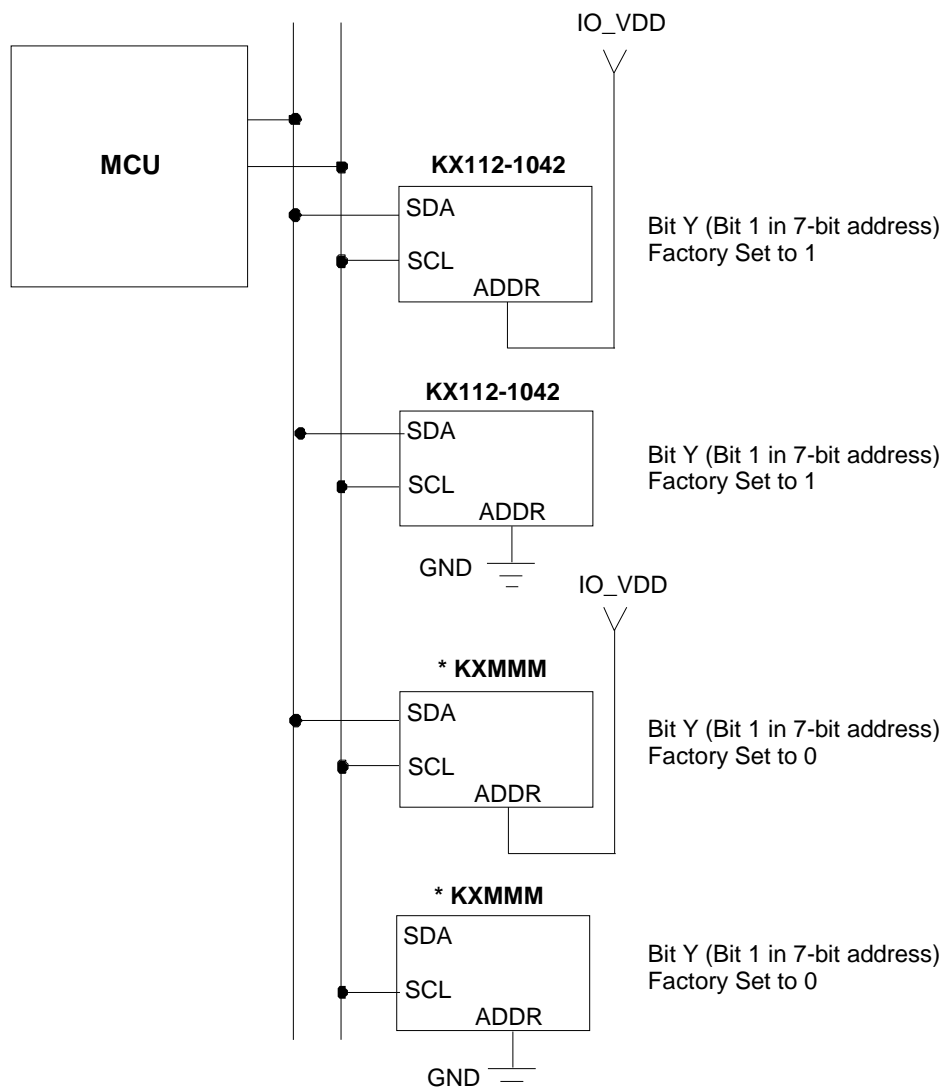

Figure 1: Multiple KX112 Accelerometers on a Shared I²C Bus
Transactions on the I²C bus begin after the Master transmits a start condition (S), which is defined as a high-to-low transition on the data line while the SCL line is held high. The bus is considered busy after this condition. The next byte of data transmitted after the start condition contains the Slave Address (SAD) in the seven MSBs (Most Significant Bits), and the LSB (Least Significant Bit) tells whether the Master will be receiving data '1' from the Slave or transmitting data '0' to the Slave. When a Slave Address is sent, each device on the bus compares the seven MSBs with its internally stored address. If they match, the device considers itself addressed by the Master. The KX112 Slave Address is comprised of a user programmable part, a factory programmable part, and a fixed part, which allows for connection of multiple accelerometers to the same I²C bus. The Slave Address associated with the KX112 is 00111YX, where the user programmable bit X, is determined by the assignment of ADDR (pin 1) to GND or IO_VDD. Also, the factory programmable bit Y is set at the factory. **For KX112-1042, the factory programmable bit Y is fixed to 1** (contact your Kionix sales representative for list of available devices). Table 7 lists possible I²C addresses for KX112-1042. As a result, up to four accelerometers can be implemented on a shared I²C bus as shown in Figure 1 on the next page (e.g. two KX112-1042 accelerometers and two other accelerometers with factory programmable bit Y set to 0).